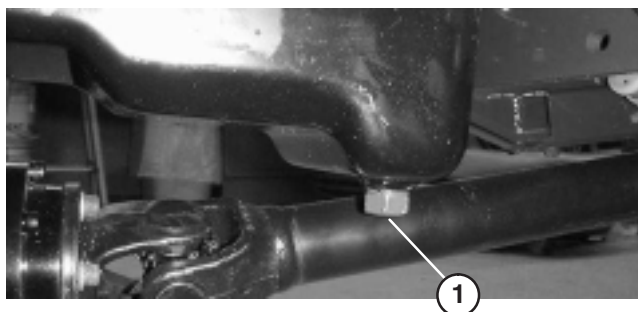

Figure 36
2. Open the hood. Set drain pan under the oil pan and in line with drain plug (Fig. 36).